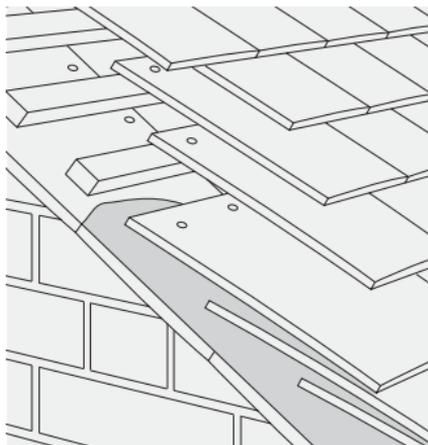

Fig. 14 – Undercloak using Plain tiles
- 2 Lay face down with tail edge facing outwards (Fig. 14).